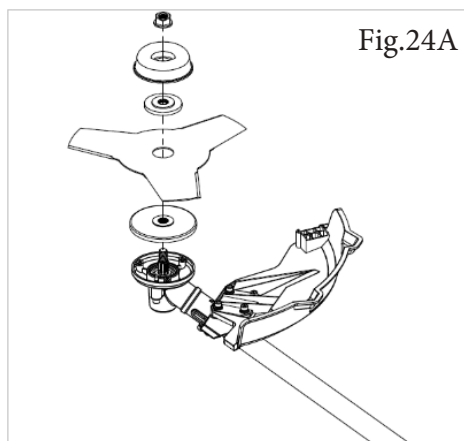

Fig.24A
- a) Remove the lower pressing plate, blade, upper pressing plate, protective cover and nut from the head.(Fig.24A)